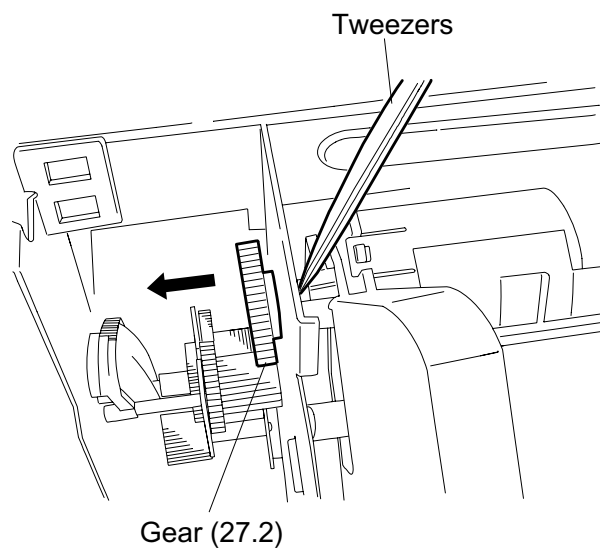

Figure 3-21. Gear (27.2 mm) Removal
3. Remove 1 gear (27.2 mm) at the right edge of the ASF from the hopper release lever by squeezing with tweezers or prying a Phillips screwdriver into the joint. (See Figure 3-21.)